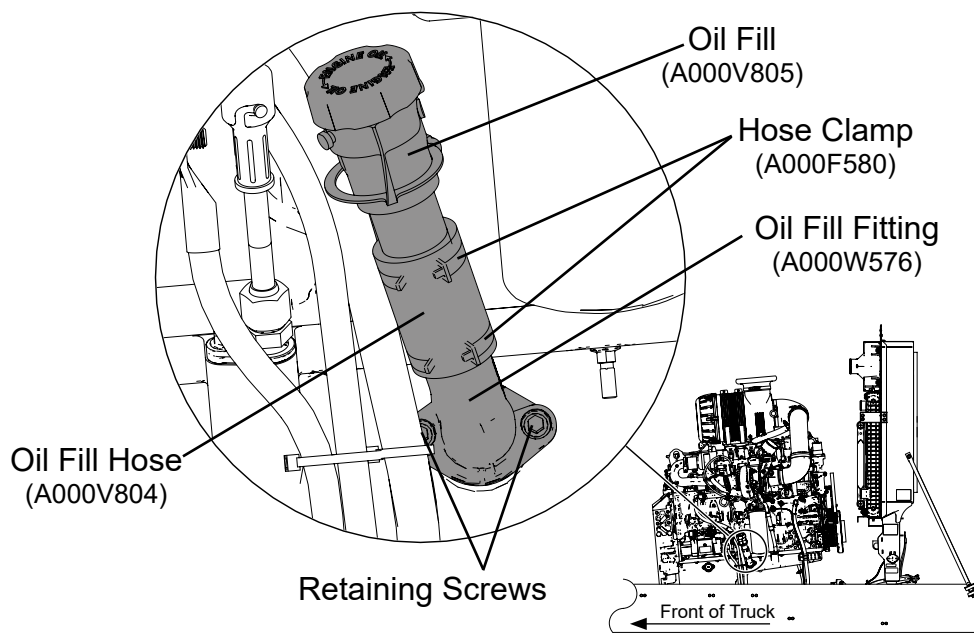

Figure 5
25. Install oil fill fitting (A000W576) in oil pan opening, see Figure 5.
26. Install retaining screws removed in Step 15 to secure oil fill fitting (A000W576), see Figure 5. Final tighten retaining screws to 71 in. lbs.
27. Compress and slide hose clamps (A000F580) on ends of oil fill hose (A000V804), see Figure 5.
28. Slide one end of oil fill hose (A000V804) on oil fill fitting (A000W576), see Figure 5.
29. Compress lower hose clamp and slide clamp down to end of hose over oil fill fitting, see Figure 5.
30. Install oil fill (A000V805) in open end of oil fill hose (A000V804), see Figure 5.
31. Compress upper hose clamp and slide clamp up to end of hose over oil fill (A000V805), see Figure 5.